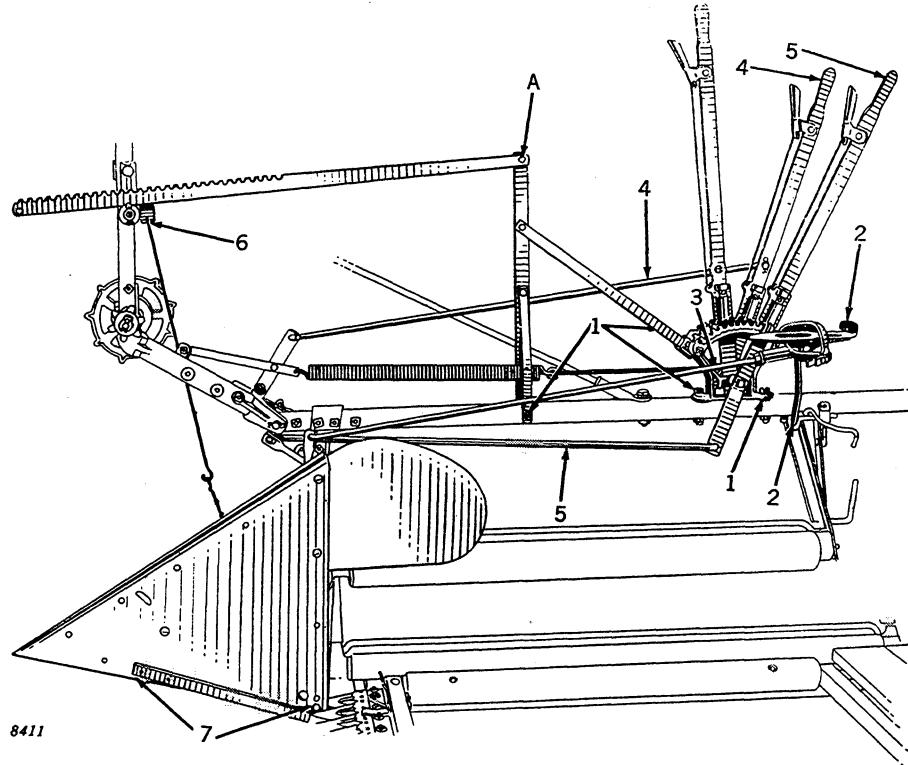

Figure 78
1. (Figure 78) Bolt lever brackets, with levers and inner reel rack support, to seat pipe.
2. (Figure 78) Hook foot treadle connecting rod into bundle carrier dump crank, hooking toward binding attachment, and fasten foot treadle crank in bearing on seat pipe, with cotter pin. Foot treadle strap is in twine can.
3. (Figure 78) Hook reel lifting spring into connection strap and lower reel support. Lift up reel support and secure rod in lever rack. The reel lifting spring should have just enough tension so the reel lifts easily. Make this adjustment after reel slats are attached.
4. (Figure 78) Hook reel lifting rod into standard at lower reel support, hooking toward platform. Fasten in lever with cotter pin as shown.
5. (Figure 78) Hook binder shifter rod into crank. Hook toward platform. Fasten in lever with cotter pin.
6. (Figure 78) Hook reel support chain rod into bracket on inner reel rack. This is the short rod and should be installed to the right of lower reel support. Fasten rack to post at "A" with cotter pin.
7. (Figure 78) Fasten inside divider with pin through hinge and cutter bar shoe. Put pin through from cutting side and fasten with cotter pin. Lock divider at top with latch. Attach brace rod from divider to upper bolt for reel support chain sheave bracket. Set the outside divider outside the elevator plate so that grain will not catch on the plate.
1. Rest inner reel rack on chain tightener roller, as shown in Figure 78. Place reel lifting lever in middle position on racket.
13. Adjust reel lifting spring at "3," Figure 78, so that reel lifts easily.